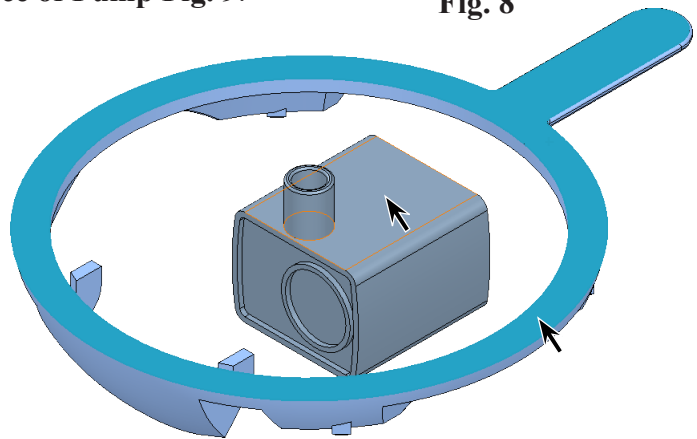

Fig. 9
Step 5. Click **top face of the Deck** and **top face of Pump** Fig. 9.